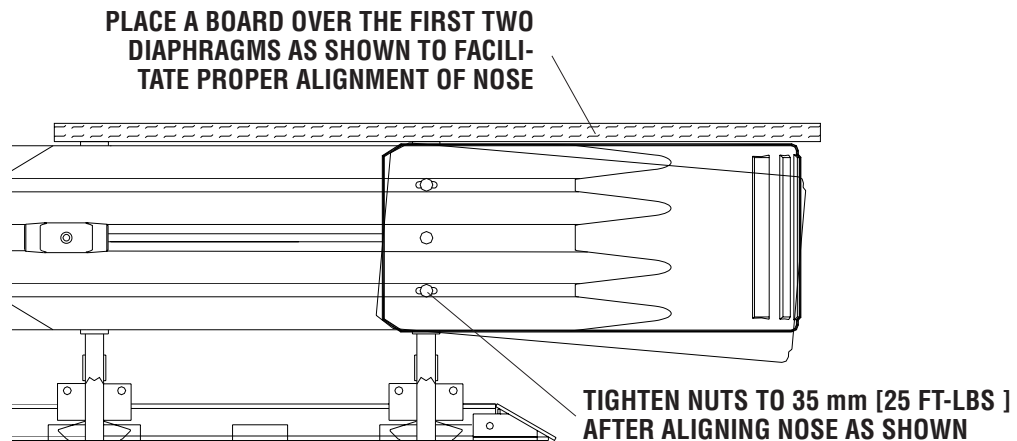

Figure 74
Step 6. (Figure 74) The top and bottom holes of the nose are slotted to provide adjustment. Adjust so the top edge of the nose is level with the top edge of the fender panels. Torque all six nuts to 35 Nm [25 ft-lbs].
Note: Nose alignment shown in Figure 74 not necessary with nose belt assembly.